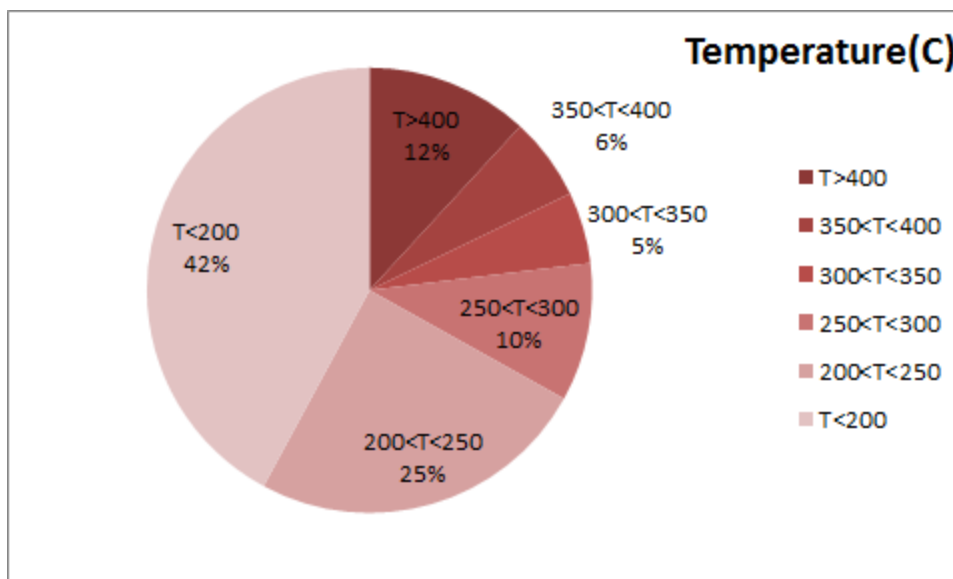

Figure 2-Temperature¹ distribution over the working hours
- Figure 2 displays flow temperature distribution for DPF's upstream. It can be obviously observed that 12% of total working-time temperature is above 400 °C and 18% above 350°C.